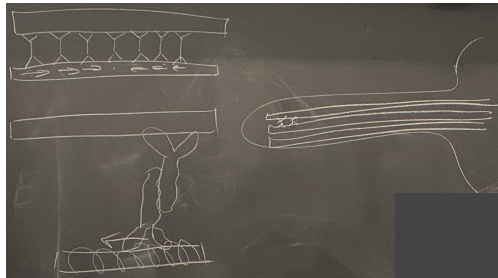

Figure 4.5: The flagellar motion of a sperm's tail is driven by polymer physics!
- Example cellular motion controlled by an active gel: The tail of a sperm (Figure 4.5).